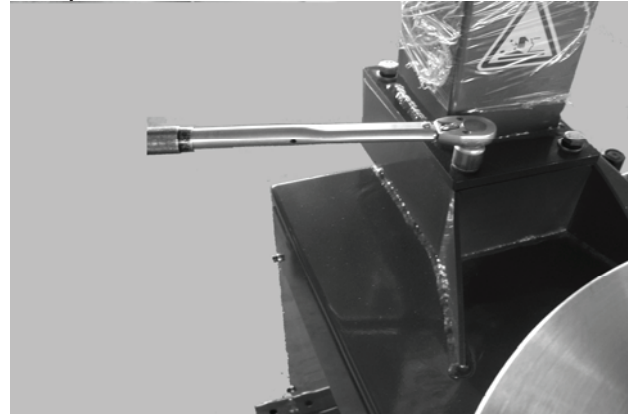

FIG 5
STEP 2: Place the column on the body with the warning labels facing the front of the machine. Make the holes on the column base plate align with the thread holes on the body. Install the bolt, elastic washer and plate washer that was removed in step 1 (Fig 5).